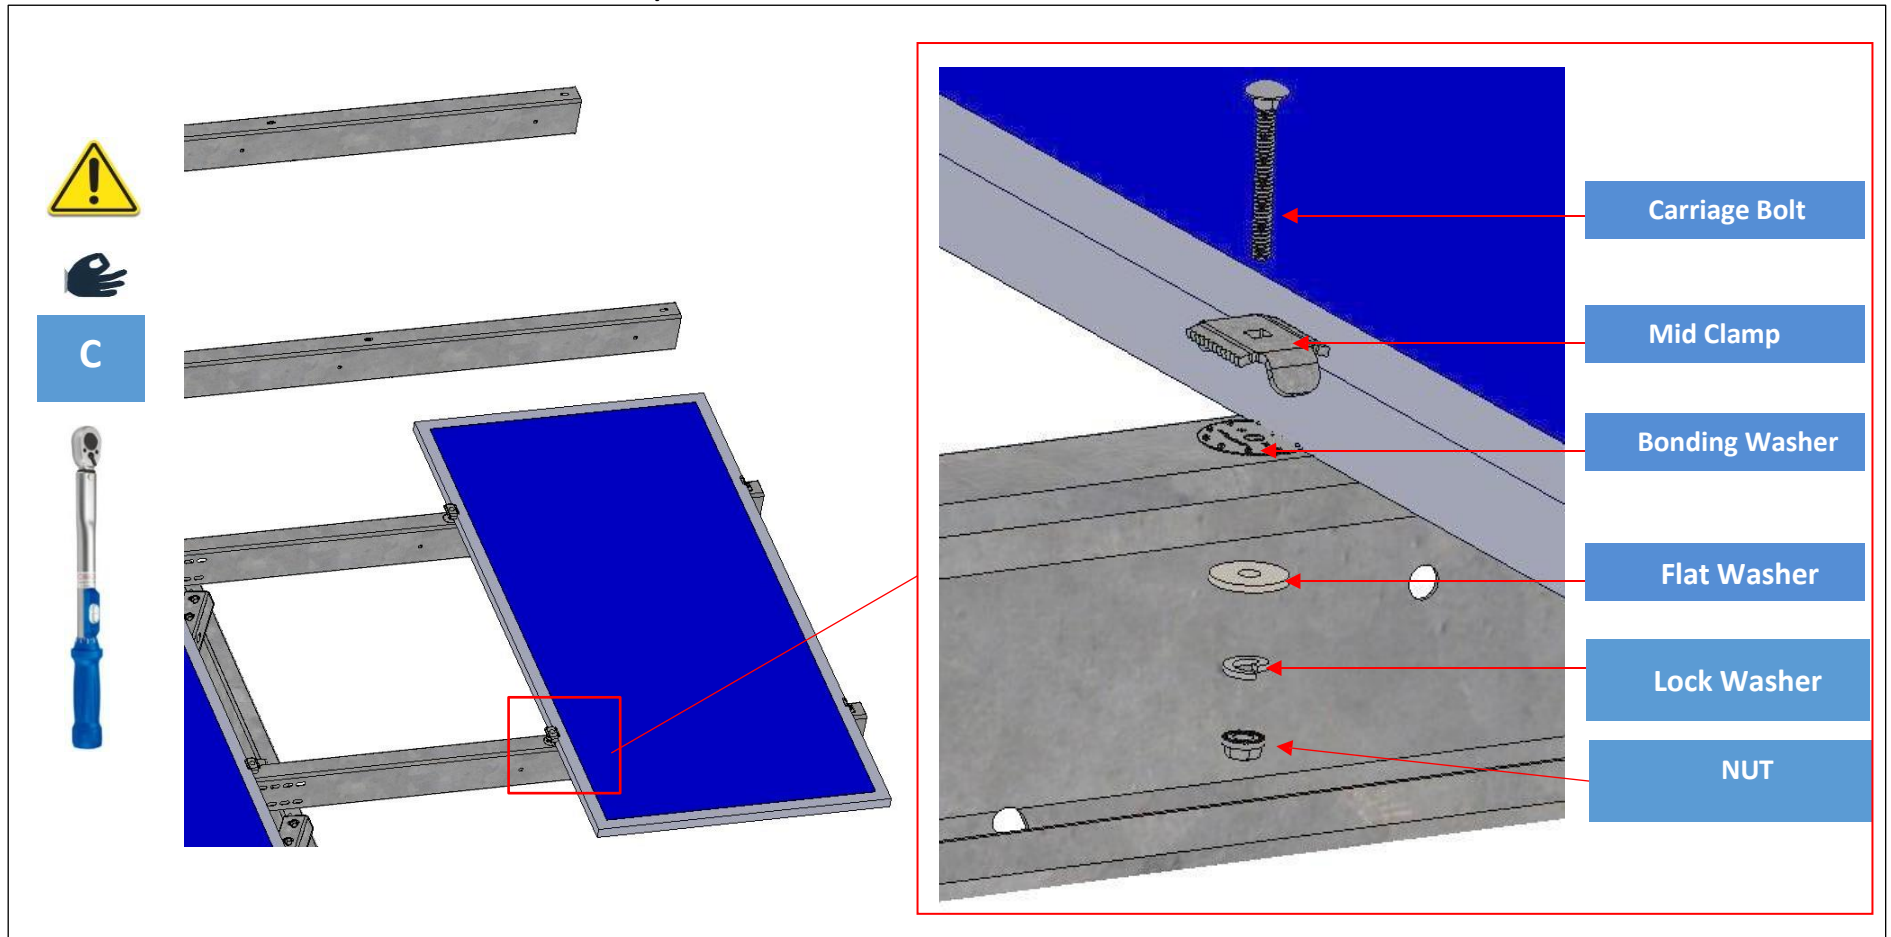

Figure 19: Mid clamp Installation
Hand tighten the two Intermodule-clamps as shown in figure 19 and IFC drawings provided. Use one (1) 5/16"-18 Serrated flanged Bolt (or Hex Head Bolt), 2.5" or 3" **(based on the module thickness)** Length, Grade 5, Magni 565 Coated or HDG, one (1) flat washer, one (1) lock washer and one (1) 5/16"-18 Serrated flanged nut (or Hex Head), Grade 5, Magni 565 Coated or HDG per clamp. Place one bonding washer (WEEB) between the PV module and the east-west beam, see Bonding Washers Configuration instruction on page 24 of this document. Ensure minimum three dimples of the bonding washers are in contact with the PV module frame. Do not over-torque the 5/16" bolts, hand tight the bolts first and then torque to specified rate, (See section 2-b of this document for hardware and torque rates).